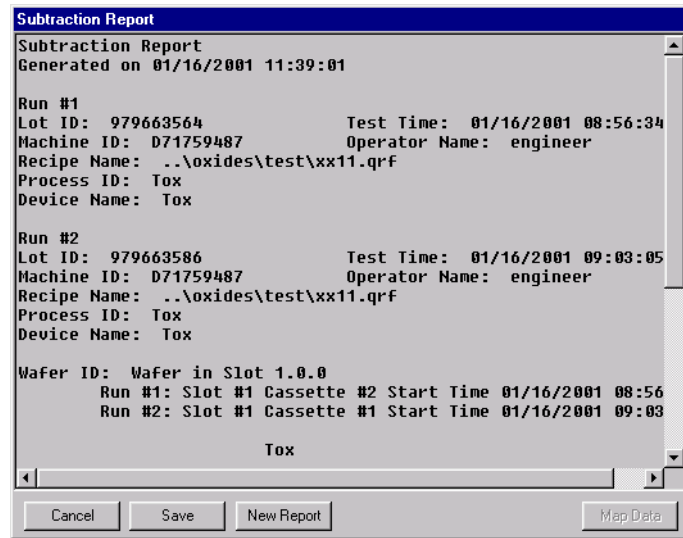

Figure 5-16: Subtraction Report
- If the two test runs match, the system creates a subtraction report (Figure 5-16).